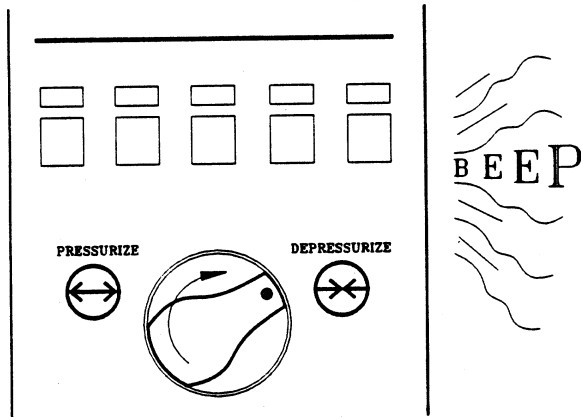

Figure 13: Exposure Complete
1. After the tone sounds, turn the control knob to DEPRESSURIZE (see Figure 13).